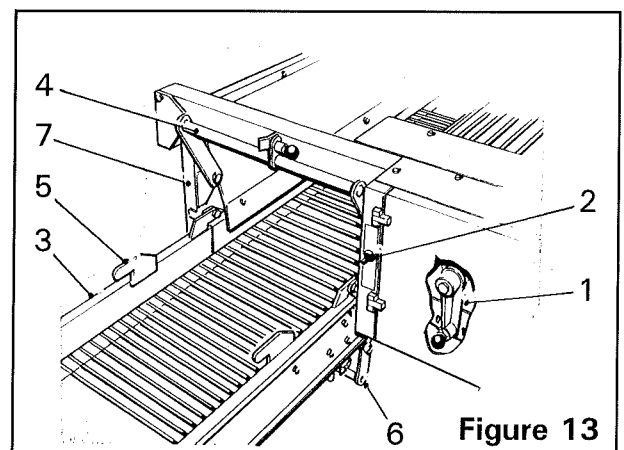

Figure 13
The 3rd stage web is shaken by an agitator which assists in sieving the soil through the web. Agitation can be varied by repositioning the roller adjuster arm (*item 1, figure 13*) located behind the rear righthand guard door.
Never operate the cross conveyor when the extension is folded in the transport position. When in operation, the cross conveyor extension must be locked in the working position using the locking arm (item 6, figure 13).
1. Using the 'Cross Conveyor Side Shift' switch (*item 2, figure 13*) and with the tractor maintaining a constant flow of oil to the valve bank, lower the conveyor extension (*item 3, figure 13*) by gently moving the cross conveyor to the left. Continue until the lifting arm (*item 4, figure 13*) is clear of the lifting lugs (*item 5, figure 13*).
2. Swing the lifting arm (*item 4, figure 13*) into its upper position as shown and secure it in place using the locking mechanism.
4. Swing the conveyor extension locking arm (*item 6, figure 13*) up until it locates in the slots and secure it in place using the locking mechanism.
1. Using the 'Cross Conveyor Side Shift' switch (*item 2, figure 13*) and with the tractor maintaining a constant flow of oil to the valve bank, move the cross conveyor fully to the right.
2. Release the conveyor extension locking arm (*item 6, figure 13*) and allow it to swing down.
3. Move the cross conveyor to the left until the lifting lugs (*item 5, figure 13*) are behind the post (*item 7, figure 13*).
4. Release the lifting arm (*item 4, figure 13*) and lower it onto the conveyor extension (*item 3, figure 13*).
5. Gently move the cross conveyor to the right ensuring that the lifting arm (*item 4, figure 13*) locates correctly under the lifting lugs (*item 5, figure 13*). Continue moving the conveyor to the right until the extension is in the fully raised position.
*Always ensure the lifting arm (*item 4, figure 13*) locates correctly under the lifting lugs (*item 5, figure 13*) before raising.*